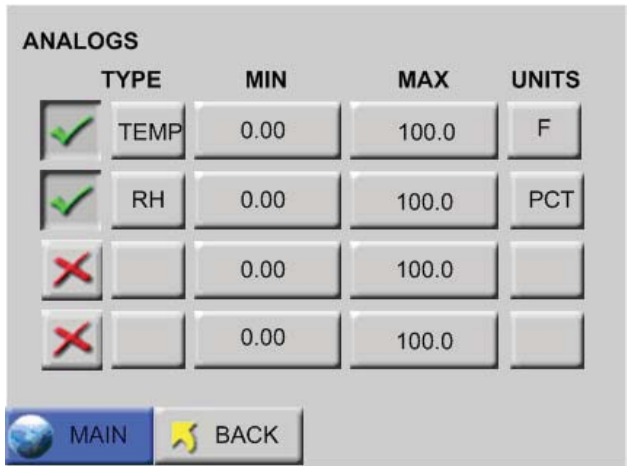

Figure 4-2 Analog Configuration Screen
3. The Analog Configuration Screen displays Figure 4-2.